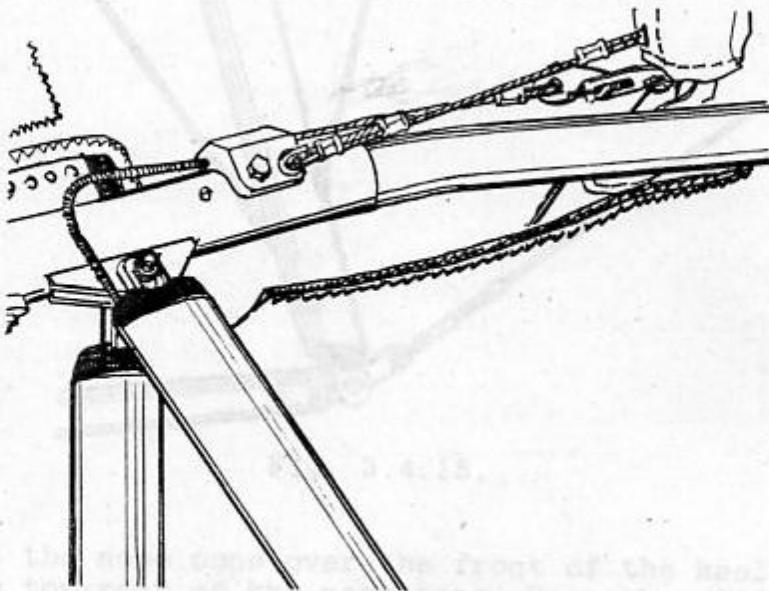

Fig. 3.4.13.
11. Be sure that the hook of the mechanism changing the leading edge sweep is fixed on the lug of the crossbar and the wires which secure the crossbar are secured to the stop detail of this mechanism with the bolt. Land that the bolt is properly fitted with the wing nut and safety ring (Fig. 3.4.13).
Check the nuts, wing nuts and safety rings at the lower control bar corners (Fig. 3.4.13).